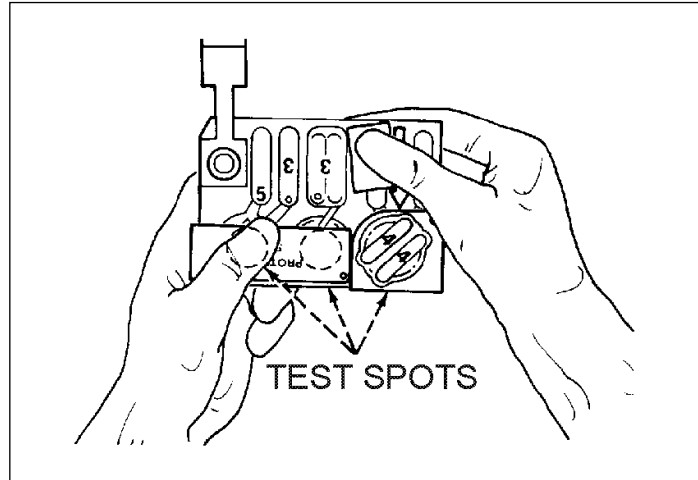

Fig 4-15. Squeezing center ampoules.
- (7) Turn the sampler detector upside down and verify wetting of test spots.
- (8) Hold the sampler detector with the test spots or arrow pointing down.
- (9) Using the heater pads, squeeze the ampoules to force liquid through the formed channels (fig 4-15).